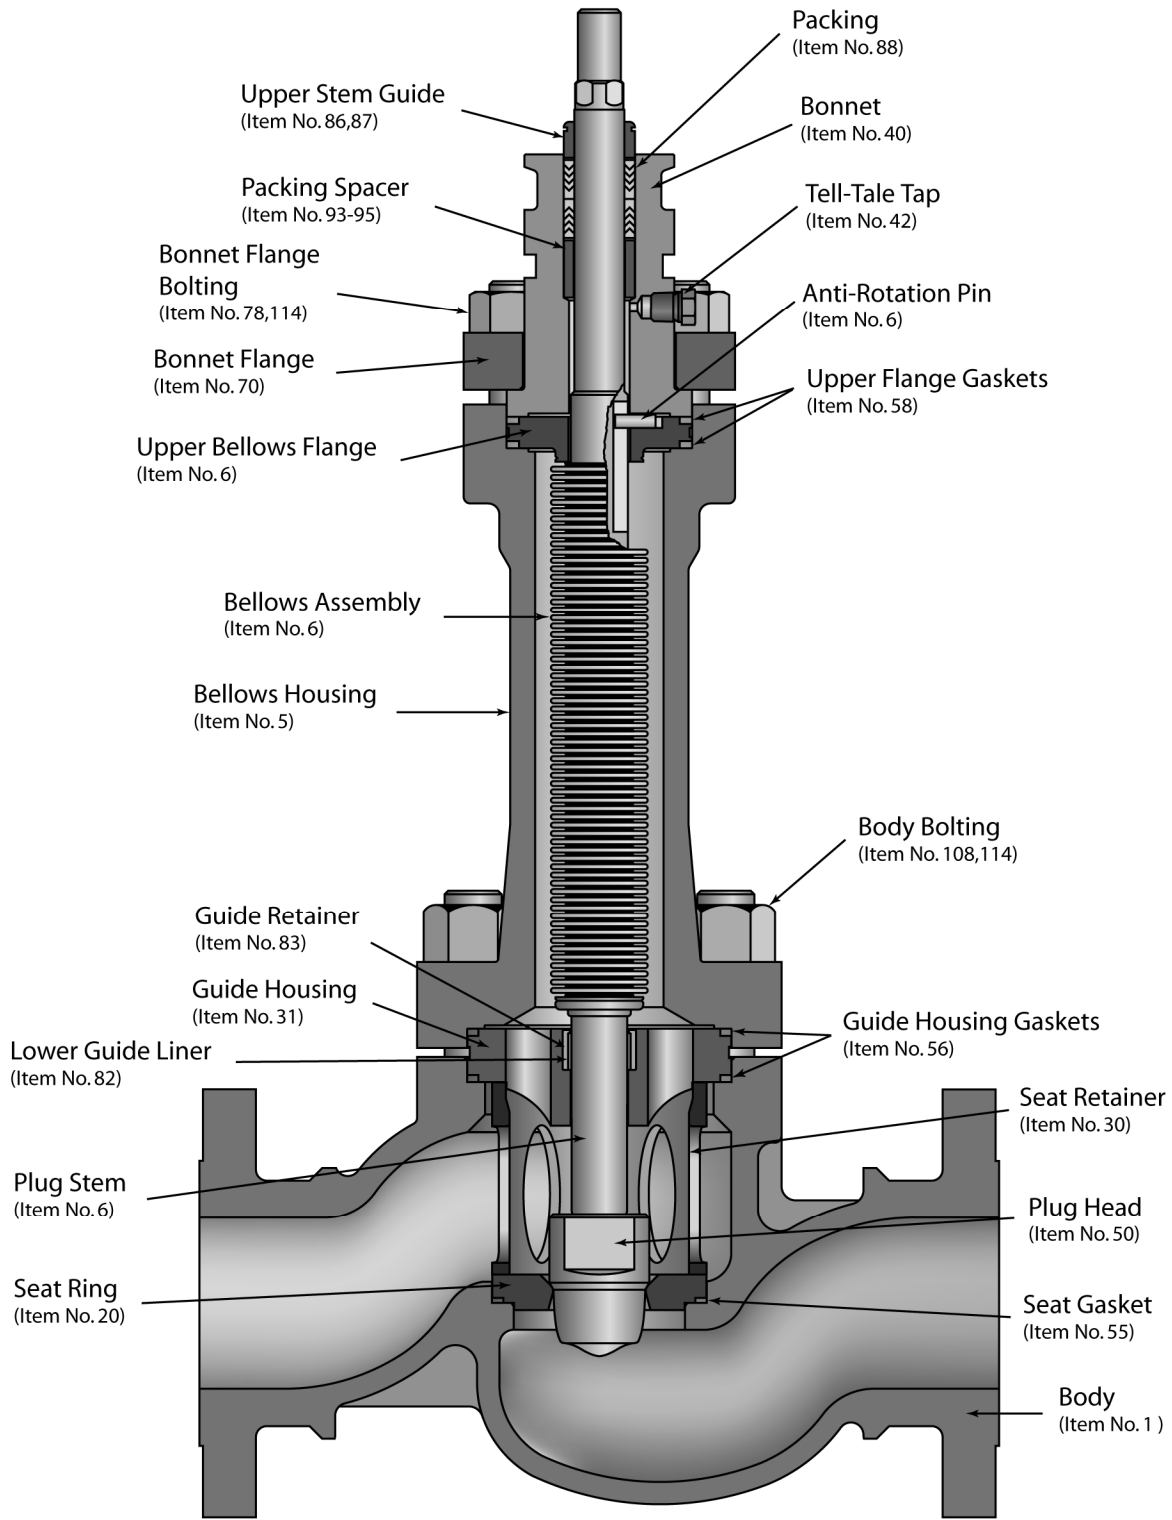

Figure 1: Mark One with K-Bellows
To disassemble the K-Bellows valve, refer to Figure 1 and proceed as follows:
To reassemble the K-Bellows valve, refer to Figure 1 and proceed as follows:
3.4 If the packing has been removed, replace packing spacer, packing and upper stem guide (refer to Figure 1).